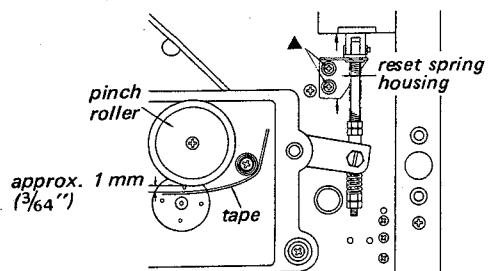

Fig. 3-1-2. Reset spring housing adjustment
See Fig. 3-1-2.
- (1) Remove the Reel Panel. See "Cabinet Removal" in page 6.
- (2) Thread a tape.
- (3) Check for approx. 1 mm ( $\frac{3}{64}$ ") clearance between the tape and the Pinch Roller in the fast forward and the rewind mode. If necessary, loosen the two screws marked  $\blacktriangle$  in Fig. 3-1-2, and adjust the position of the Reset Spring Housing by moving in the directions shown by the arrows.
- (4) After the adjustment, apply lock paint to the adjusting screws.